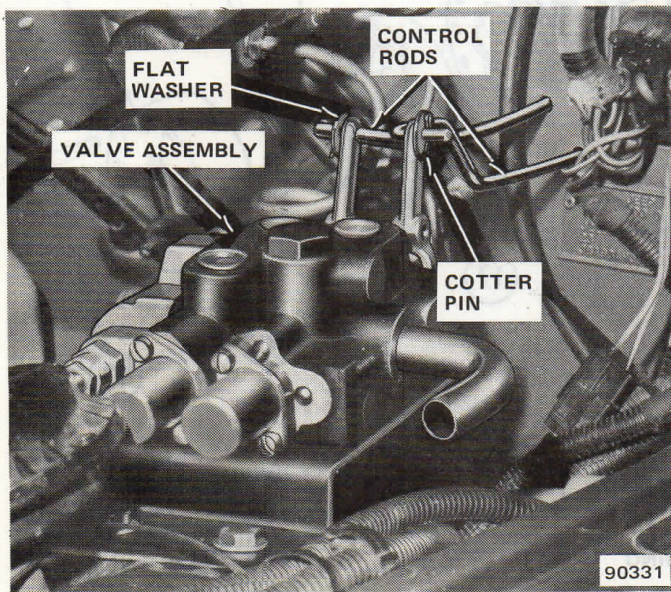

Fig. 1-44 Control Rod Routing Through Instrument Panel
(26) Insert ends of rods through control arms on valve assembly and secure with flat washers and cotter pins (fig. 1-44).
(27) Insert center control rod section through instrument panel openings and secure rods with connectors. Shape rods as necessary so that no bind or